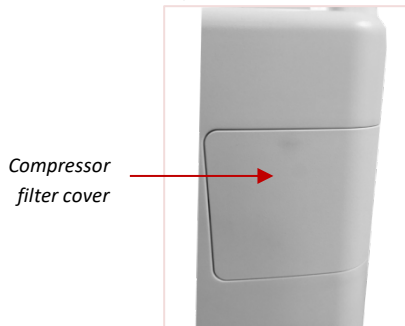

Figure 4-1
- a) The compressor filter cover is in the back of the device (see figure 4-1 below). Open the compressor